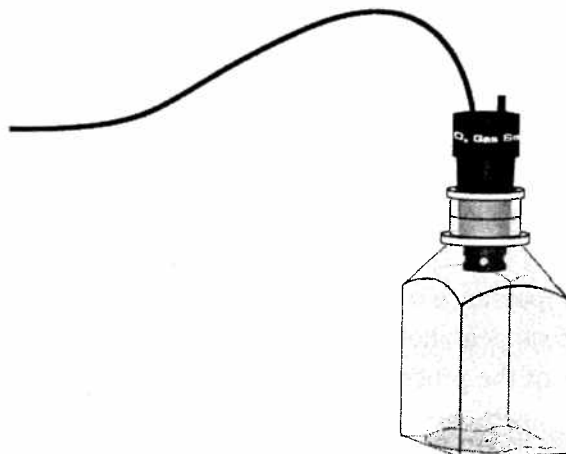

Figure 1
- e. Place the O_2 Gas Sensor into the bottle as shown in Figure 1. Gently push the sensor down into the bottle until it stops. The sensor is designed to seal the bottle without the need for unnecessary force.